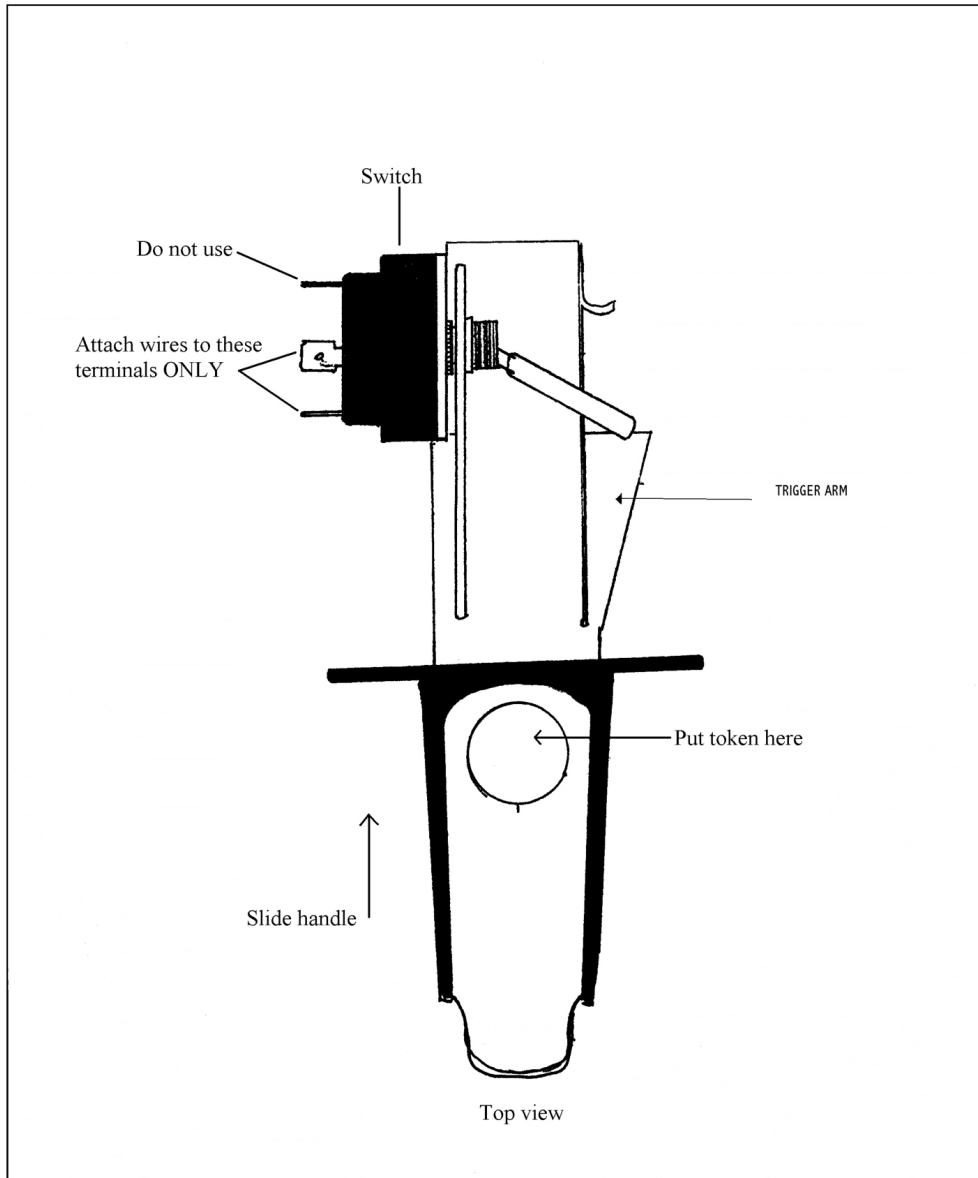

Figure 2 Token Mechanism
2. Locate the two brass switch terminals on the rear of the token mechanism (see Figure 2).